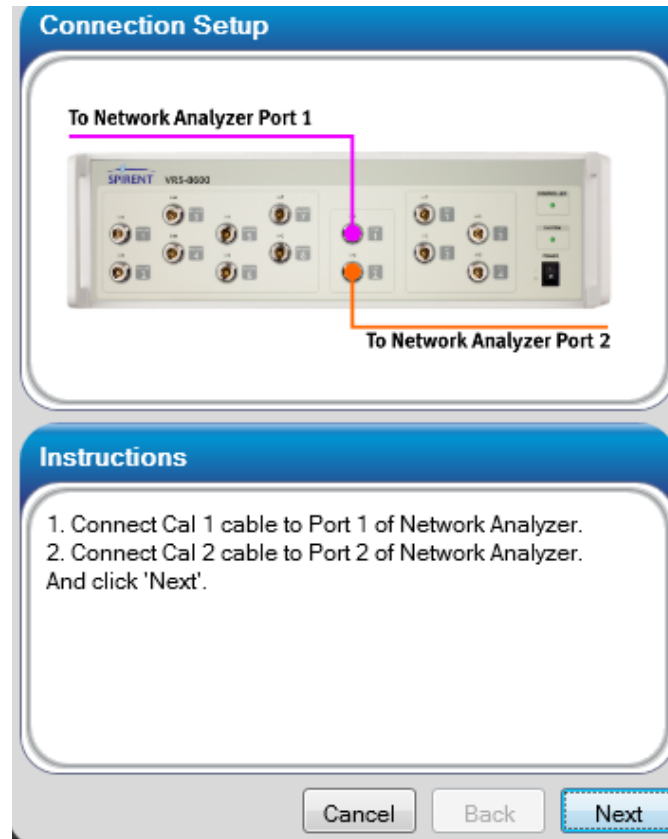

Figure 4-15: Connection Setup Window
19. When the test initialization is complete, a Connection Setup window displays, as shown in Figure 4-15.
20. Perform the Instructions given in the *Connection Setup* window and click **Next**, as shown in Figure 4-15.